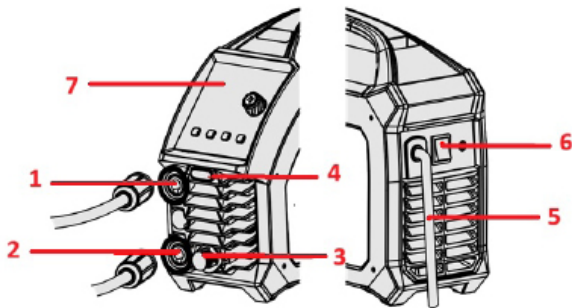

Figure 1: Device structure
During pairing, the blue indicator of the wireless receiver module  ((4) as in Fig. 1) flashes. After successful pairing, the remote control mode indicator (8) lights up,  and the indicator (4) lights up blue continuously.